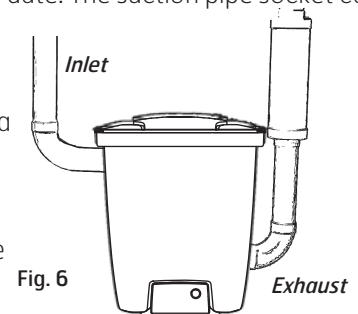

Fig. 6
5. Fit the blanking plug to the outlet previously occupied by the suction pipe socket. Use the four screws to hold it in place. The exhaust pipe must be firmly attached to the wall to ensure its connection with the socket does not loosen. Remember that you will need to be able to turn the bent pipe in different directions to ensure a suitable pipe layout. Then connect up the exhaust pipe and muffler, Fig. 6. Fit the central vacuum cleaner so that the exhaust pipe is as short as possible, max. 5 metres. Take the surroundings into consideration when positioning the exhaust. For this reason, you should always fit a muffler.